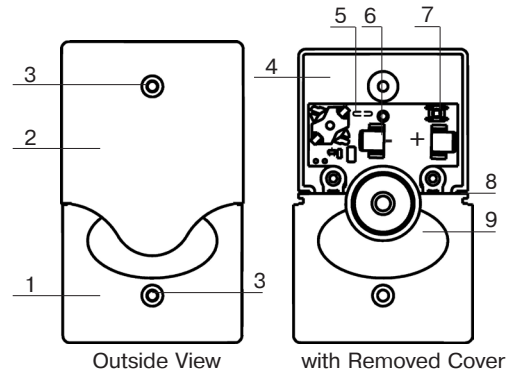

Figure 2 – Case of the Alerter
11.1 Choose a place for installation, mark places for the Alerter fixation. Use the Alerter case as a template for marking (see Figure 2).